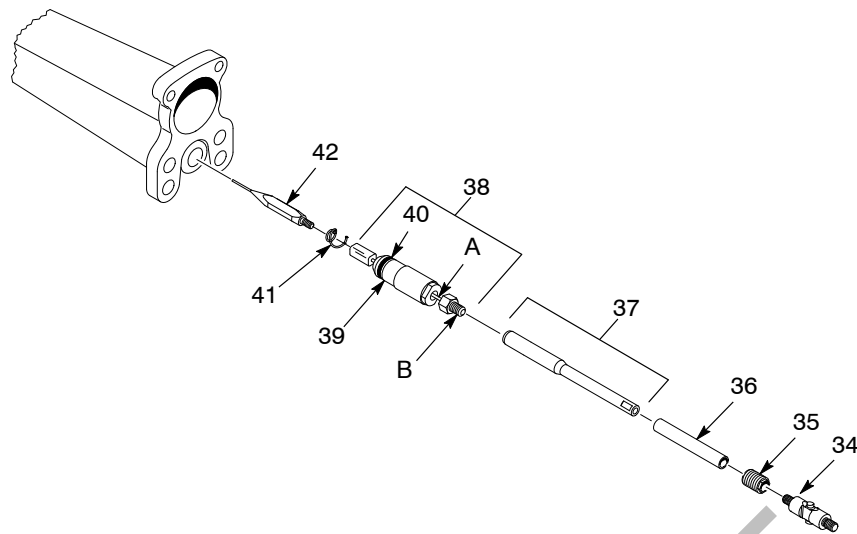

Figure 7-6 Packing Cartridge and Needle Replacement
NOTE: See Figure 7-6. The contact spring (41) may come out with the needle.
2. See Figure 7-6. Inspect the contact spring (41) and replace if damaged.
See Figure 7-6.